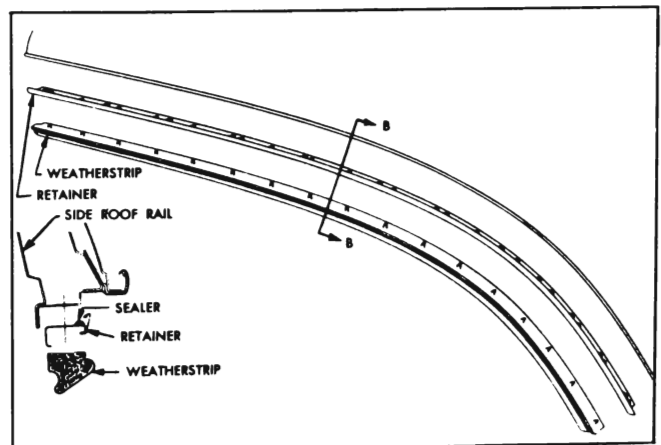

Figure 13-32—Side Roof Rail Weatherstrip
IMPORTANT: At the center of the weatherstrip, a section (approximately ten (10) inches long) is provided with a reinforced outer skin to prevent excessive wear from the rear door window upper frame during closing and opening of the door. This reinforced section of the weatherstrip should be correctly located to properly perform its function. See Fig. 13-32.
4. Apply sealer to top of retainer just outboard of attaching holes along entire length of retainer. (See Fig. 13-32.)